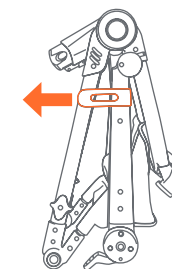
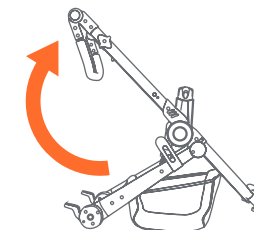

Fig. 1a
Fig. 1b
- 1) • Unlock the release lever (Fig. 1a) and unfold stroller frame by pulling upward on the stroller handle until the frame locks (Fig. 1b).